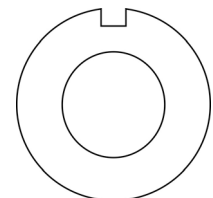

Figure 3-27 Air Rake Alignment Ring
3. Reinstall air rakes making sure that they are oriented as before with the notch on the alignment ring facing up, Figure 3-27.